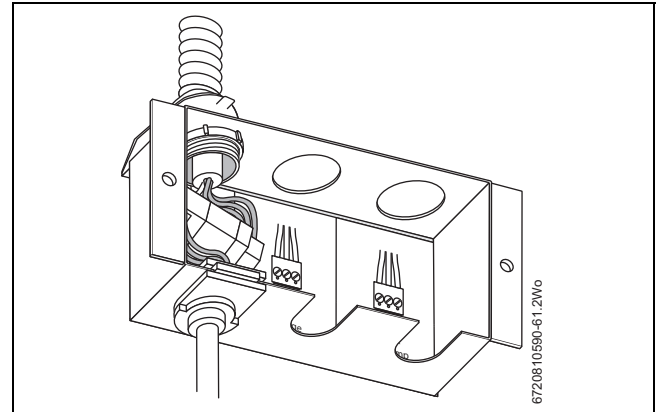

Fig. 52 Cable connected (mains power supply)
- ▶ Insert cable into the junction box as shown in Fig. 52.